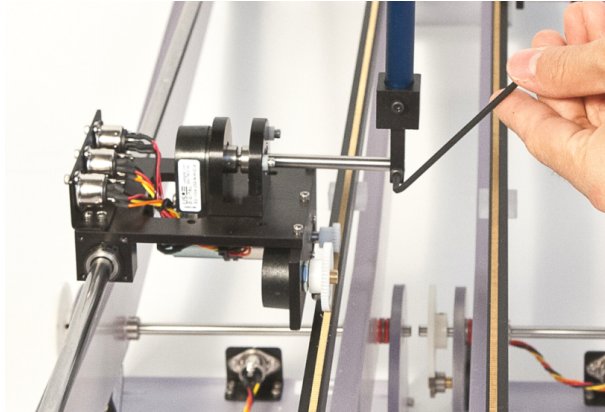

Figure 4.4: Attach rod to pendulum cart
- Slide the rod assembly onto the "pendulum" cart (front cart) and position this at the tip of the shaft, as shown in Figure 4.4. Tighten the screw to embrace the assembly to the shaft. **Do not over tighten the screw.**